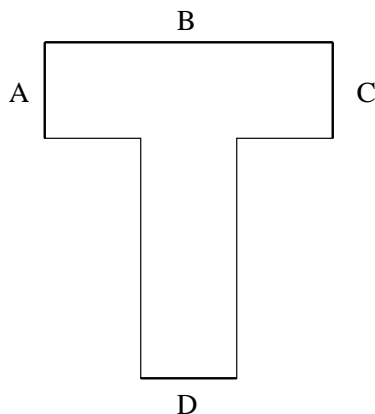

Figure 4.13: I/O port configuration that Carafe will not properly handle.
- Figure 4.13 shows a situation where no breaks will be found. Although a relatively small square defect could break A or C from the rest of the circuit, a thin line break would not as the current could flow through the material connected to port B. Seldom are ports arranged such that they are adjacent as in Figure 4.13, so this situation is very rare.